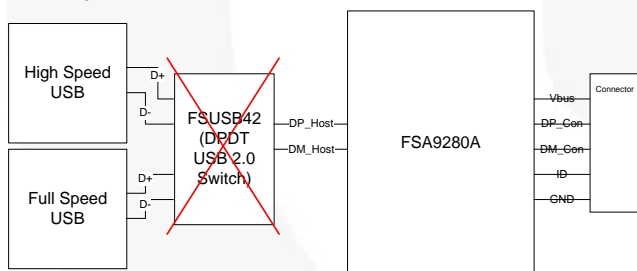

Figure 28. NOT RECOMMENDED — Multiplexing High-Speed and Full-Speed USB onto the DP_Host, DM_Host
Many phone platforms have separate full-speed and high-speed controllers; however, the FSA9280A only has one designated USB switch path. The FSA9280A high-speed USB path is only designed to allow one HS USB controller to be multiplexed on to the USB connector. To allow for multiple USB controllers on the USB port, it may be tempting to use one of Fairchild's existing USB switches to multiplex the HS and FS controllers onto the shared HS USB switch path of the FSA9280A, as illustrated in Figure 28. It is NOT recommended that the USB signals be multiplexed at the input the FSA9280A DP_Host or DM_Host pins for the following reasons:
- When placed in series, as shown in Figure 28, the cumulative effect of the two series passive USB switches impacts the HS eye performance and could result in failure of the HS eye mask test per the USB 2.0 specification.